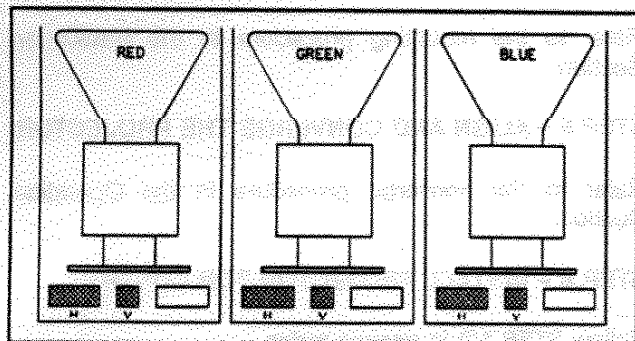

FIGURE B-1. Yoke Plug Locations
- II) **Locate the Yoke Plugs.** The horizontal and vertical yoke plugs are located at the top rear of the projector, slightly below the CRT necks. See Figure B-1 below.